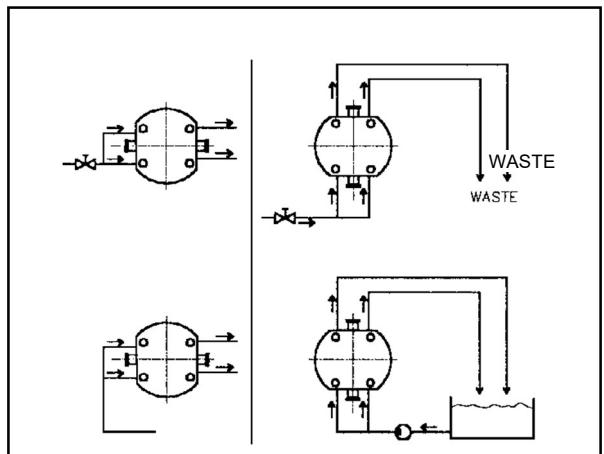

Figure 5a: Suggested Low Pressure Flushing System
- A low pressure sterile barrier is required. The system can be installed as in Figure 5a